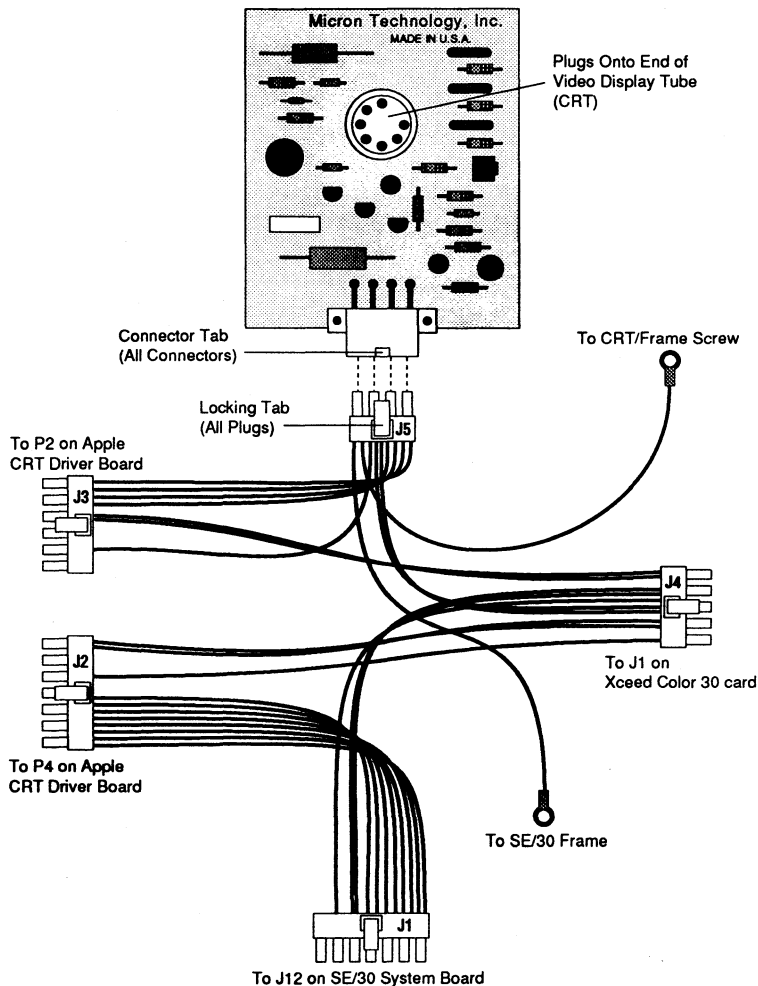
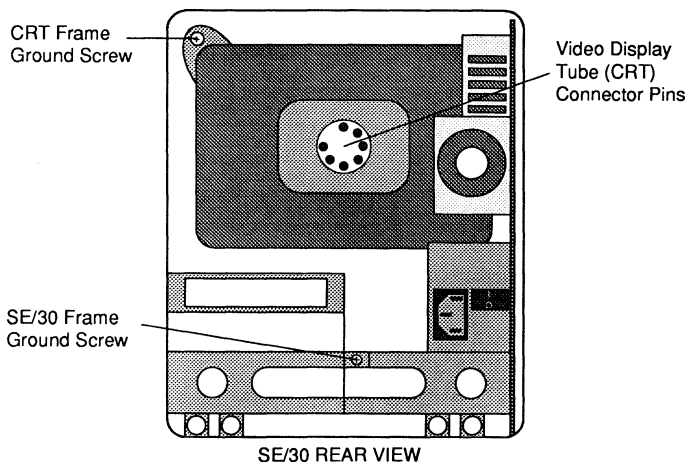

Figure 2-4
Figure 2-6
The Micron Xceed Gray-Scale 30 video adapter and cable assembly is shown in Figure 2-4. Note that the plugs on the cable assembly are all numbered (J1–J5) for easy reference. All the connectors have tabs and all the plugs have locking tabs providing for "one way only" installation.
5. Connect the two ground wires from the cable assembly shown in Figure 2-4 to their respective ground screws on the SE/30 frame as shown in Figure 2-6. You will need to completely remove the ground screws and reinsert them through the ground wire connector "loops" to insure a proper connection. ***It is very important to connect these ground wires properly and securely since they can provide protection against serious electrical shocks.***
6. Insert cable-assembly plug J5 into the connector on the Gray-Scale 30 connector card and carefully plug the card straight-on to the connector pins located at the back end of the CRT as shown in Figure 2-6.